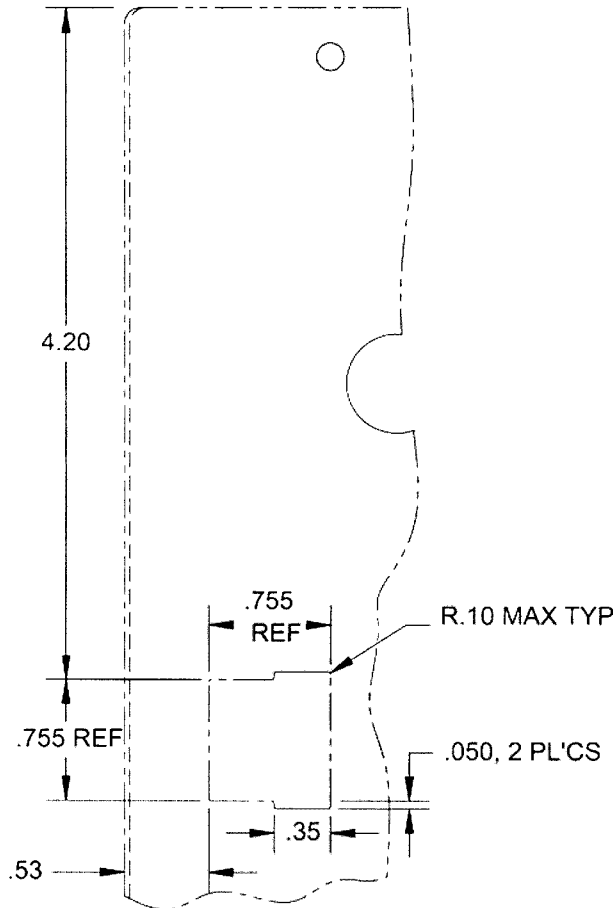

Figure 1 A444 COVER MODIFICATION
5. Create or modify remote switch hole in A444 cyclic box cover per Figure 1. Clean up debris.